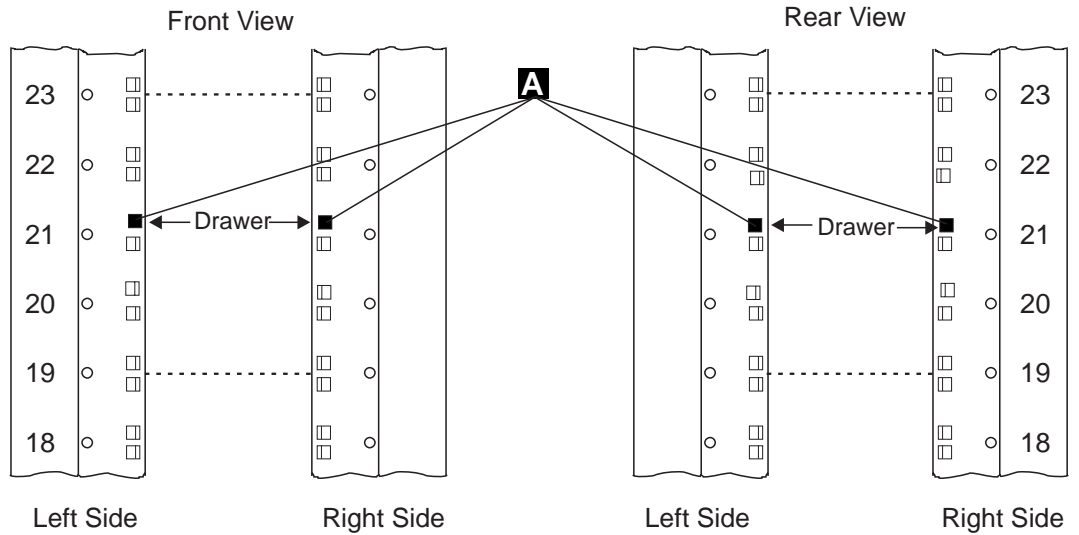

Figure 1-5. Installing Captive Nuts for the Service Drawer
8. ____ Refer to Figure 1-5, and if needed install four captive nuts **A** (PN 58G5766) on the front and on the rear side of the controller expansion, to install the service drawer.